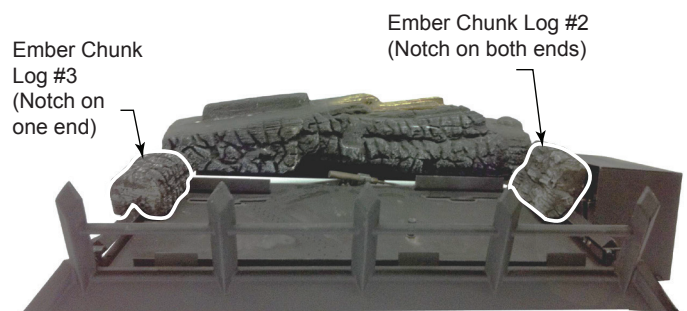

Figure 37
2. Place the ember chunk (#2) with notch on both ends on the grate bar right side of the burner adjacent to the controls. Push towards rear as far as possible. *Figure 37*
3. Place the ember chunk (#3) with notch on one end on the grate bar left side of the burner with notch towards rear. Push towards rear as far as possible. *Figure 37*